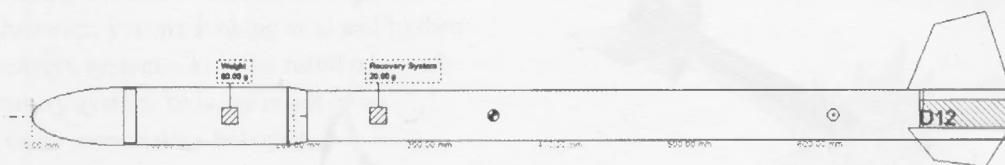

Figure 5-20 *Payloader rocket dimensions.*
- Nose cone (length 70 mm, diameter 45 mm) (see template, Figure 5-20)
- 45–40 mm transition length 15 mm (see template, Figure 5-20)
- Balsa for fins (see template, Figure 5-20)